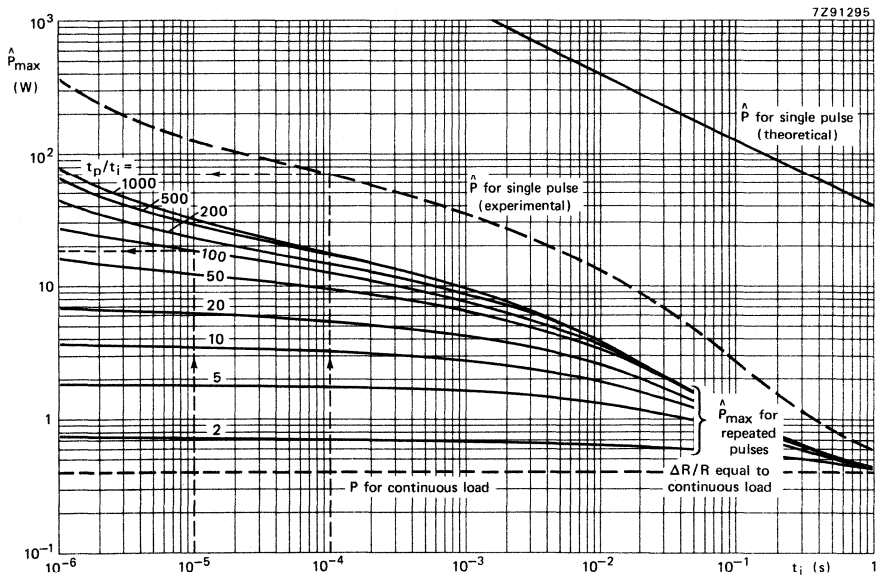
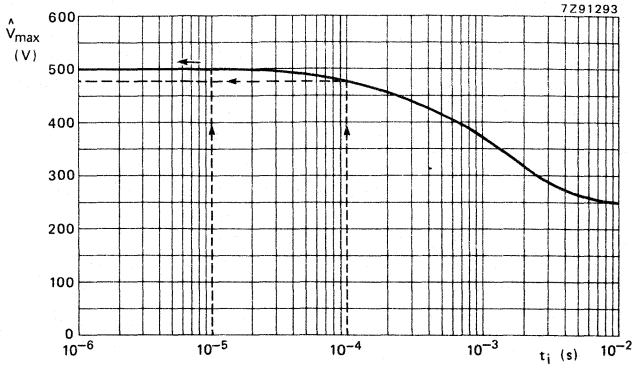

Fig. 8 Max. permissible peak pulse power (\hat{P}_{max}) versus pulse duration (t_i) for a typical resistor.
Fig. 9 Max. permissible peak pulse voltage (\hat{V}_{max}) versus pulse duration (t_i) for a typical resistor.
Knowing the thermal characteristics of a resistor, it is possible to calculate the load due to a single pulse which will cause a resistor to fail by going open circuit. This theoretical maximum can be expressed in terms of peak pulse power, \hat{P} , and pulse duration, t_i , the straight line in Fig. 8 is a typical example for a film resistor. In practice, however, owing to variations in the resistance film, substrate, or spiralling, resistors fail at loads less than this theoretical maximum; the dashed line in Fig. 8 shows the observed maximum for a resistor under single-pulse loading.
Using a computer program which takes account of all factors affecting resistor behaviour under pulse loads, curves similar to those of Fig. 8 are being produced for all our resistor ranges.
- \hat{P}_{max} = max. permissible peak pulse power (see Fig. 8)
- \hat{V}_{max} = max. permissible peak pulse voltage (Fig. 9)
The graphs of Figs 8 and 9 may be used to determine the maximum pulse loading for a resistor. The calculations assume:
- $\frac{\hat{V}_i^2}{R}$ must be lower than the value of \hat{P}_{max} given by the solid lines of Fig. 8 for the applicable value of t_i and duty cycle t_p/t_i .
- \hat{V}_i must be lower than the value of \hat{V}_{max} given in Fig. 9 for the applicable value of t_i .
- $\frac{\hat{V}_i^2}{R}$ must be lower than the value of \hat{P}_{max} given by the dashed line of Fig. 8 for the applicable of t_i .
Fig. 1 gives $\hat{P}_{\max} = 19\ \text{W}$ and Fig. 9 gives $\hat{V}_{\max} = 500\ \text{V}$. As the operating conditions $\hat{P} = 16\ \text{W}$ and $\hat{V}_i = 40\ \text{V}$ are lower than these limiting values, this resistor can safely be used.
The dashed curve of Fig. 8 shows that at $t_i = 10^{-4}\ \text{s}$, the permissible $\hat{P}_{\max} = 70\ \text{W}$ and Fig. 9 shows a permissible \hat{V}_{\max} of $480\ \text{V}$, so again this resistor may be used.